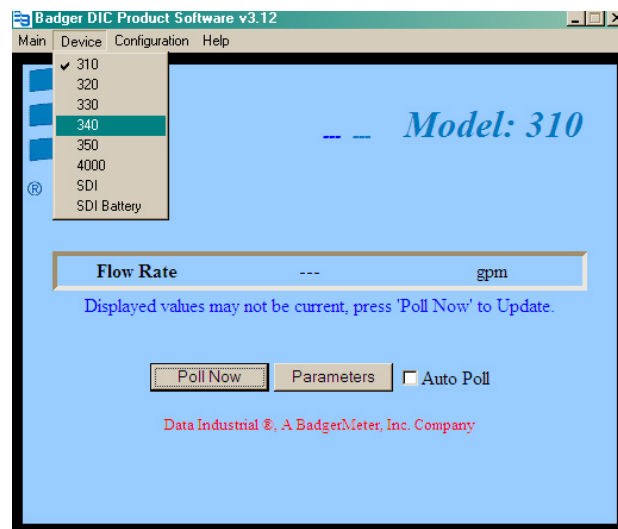

Figure 15: Select 340
4. Open the program and from the *Device* tab and select **340** as shown in Figure 15.